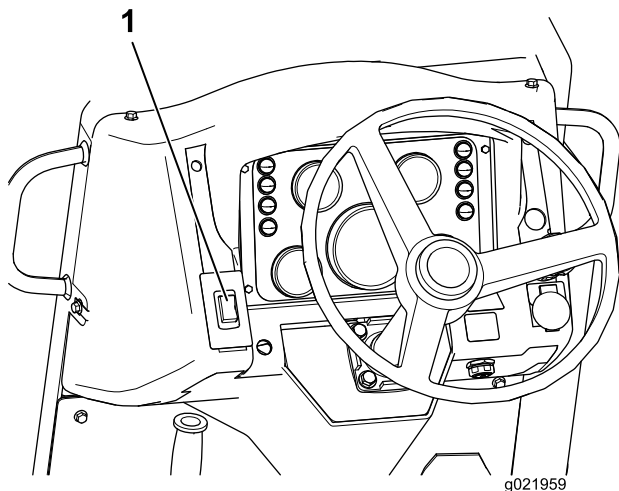

Figure 24
- Push the parking brake switch (Figure 24) up to apply the parking brake.